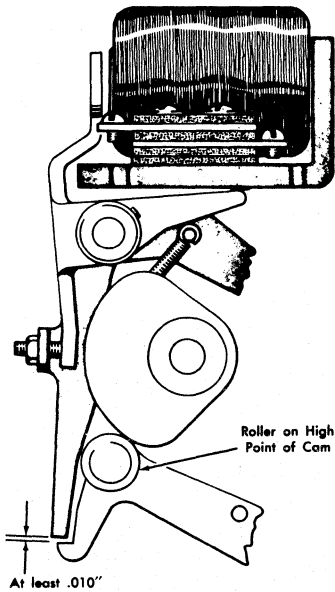

Figure 125. Latching Clearance
1. There should be at least .010-inch overtravel of hook on interposer bail past latching surface of control arm when interposer bail is on high point of cam (Figure 125).